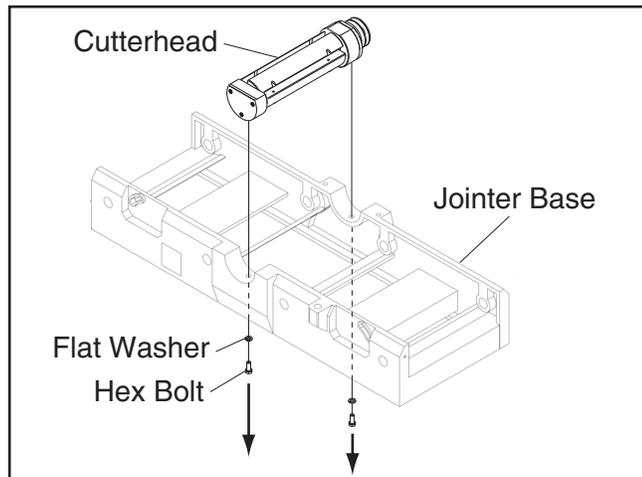

Figure 8. Removing cutterhead fasteners.
17. Reach inside base and remove hex bolts and lock washers that secure cutterhead to base (see **Figure 8**).